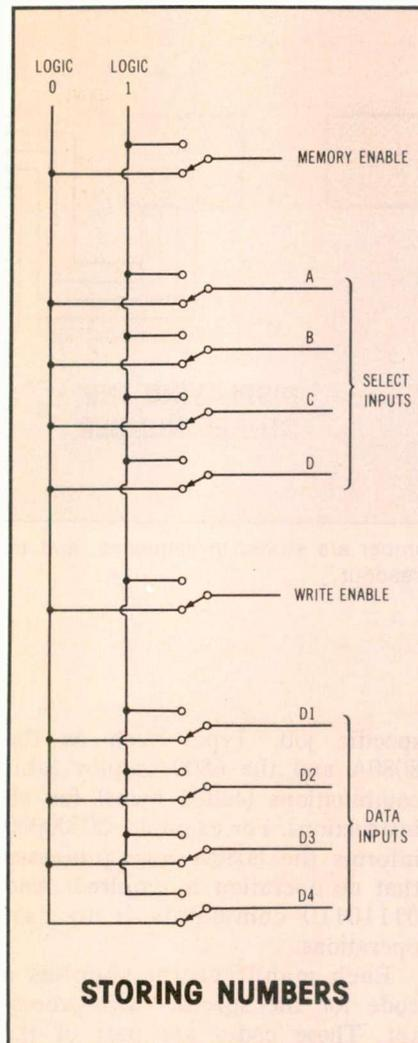

Figure 5 Ten toggle switches can be used to program a phone number into the 7489 memory IC after they are wired as shown.
Figure 5 Pulses can be clamped by the same method used before with sine waves. However, the pulse polarity affects the dc voltages. (A1) The negative peak is clamped, so all dc voltages will be positive. The dc voltages shown apply only to the 10-to-1-ratio in Figure 5E. (A2) Reversing the diode polarity clamped the positive peak, so all dc voltages are negative. Notice that the pulse polarity affects only the *amount* of dc voltage; *polarity* of this dc is determined solely by the diode polarity. (B) Pulses of 50% duty cycle (same time on as off) are square waves. The vertical lines have been touched up to make them visible and a zero line is indicated by a dotted line. This waveform is symmetrical, so +5.4 V were measured in Figure 5A1 and -5.4 V were the reading in Figure 5A2. (C) Different positive and negative readings are obtained when the duty cycle is 66% (*on* time is 2X and *off* time is 1X) as shown by the top waveform. The top waveform in the A1 schematic produced +3.4 V, while in the A2 schematic the reading was -7.4 V. The bottom waveform produced +7.4 V in the A1 schematic, and the same waveform applied to the A2 schematic produced -3.4 Vdc. (D) The 5-to-1 pulse ratio causes even larger differences between dc readings of the two polarities. The top waveform in circuit A1 produced +1.5 V, and -9.3 V in circuit A2. Circuit A1 and the bottom waveform measured +9.3 V, with circuit A2 producing -1.5 V. After all readings were increased by 0.6 V for the diode, they were 2.1 and 9.9 V for a total of 12. This matches the 12 VPP at the circuit. A slight error of pulse width accounts for the small discrepancy. (E) Proper polarity differences with a 10-to-1 ratio should produce basic readings of 1.1 and 10.9 voltages after the diode voltage is considered. That was true in this case also.
Special keyboards and decoders normally are used with computers and microprocessors to store data in a memory. However, the basic principles are made more clear by manual coding, as done with the switches of Figure 5.
These 8-bit (or one byte) codes are very unwieldy to work manually. The earliest models of computers forced the operators to feed the numbers into the processor by setting various switches. This was somewhat similar to the method shown in Figure 5.